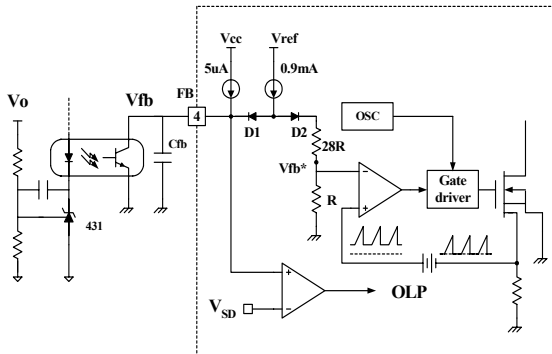

Figure 2. Pulse width modulation (PWM) circuit
**2. Feedback Control :** The FS6X1220R employs current mode control. The voltage of the feedback pin is compared with the current sense voltage for pulse width modulation (PWM). Figure 2 illustrates the simplified PWM block. The feedback voltage determines the peak drain current of the SenseFET. Usually opto-coupler along with TL431 are used to implement feedback network. The collector of the opto-coupler transistor is connected to feedback pin and the emitter is connected to the ground pin. When the voltage of the reference pin of TL431 exceeds the internal reference voltage of 2.5V, the opto-coupler diode current increases, pulling down the feedback voltage.
**3.1 Pulse-by-pulse current limit :** As shown in figure 2, the drain current of the power MOSFET is limited by the inverting input of PWM comparator (Vfb\*). Assuming that the 0.9mA current source flows only through the internal resistor (28R + R = 2.9k), the cathode voltage of diode D2 is about 2.6V. Since D1 is blocked when the feedback voltage (Vfb) exceeds 2.6V, the maximum voltage of the cathode of D2 is 2.6V. Therefore, the maximum value of Vfb\* is about 0.1V, which limits the peak value of the power MOSFET drain current.